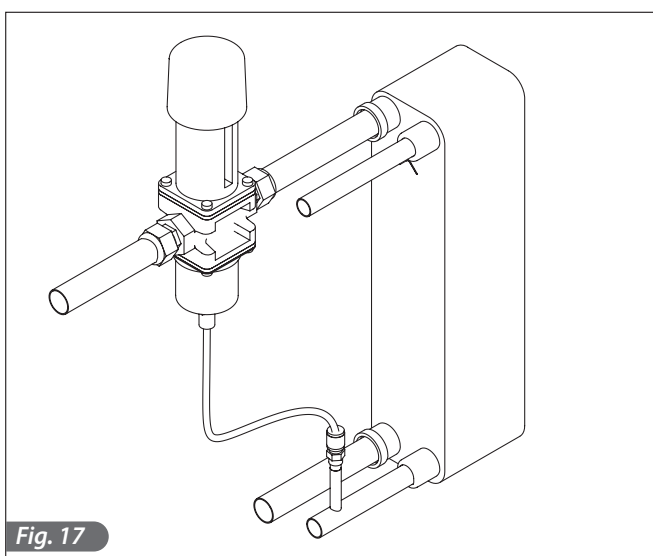

Fig. 17
- When testing (mains water), make sure the machine is at a standstill, that the water supply is ready and that water is not coming out of the condenser drain pipe; in this case, adjust the pressure valve until water coming out is completely stopped (Fig. 17).